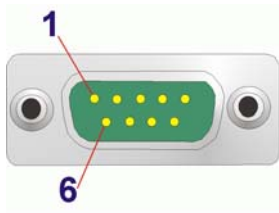

Figure 3-40: Serial Port Connector (COM2) Pinouts
- CN Pinouts:** See **Table 3-37** and **Figure 3-40**